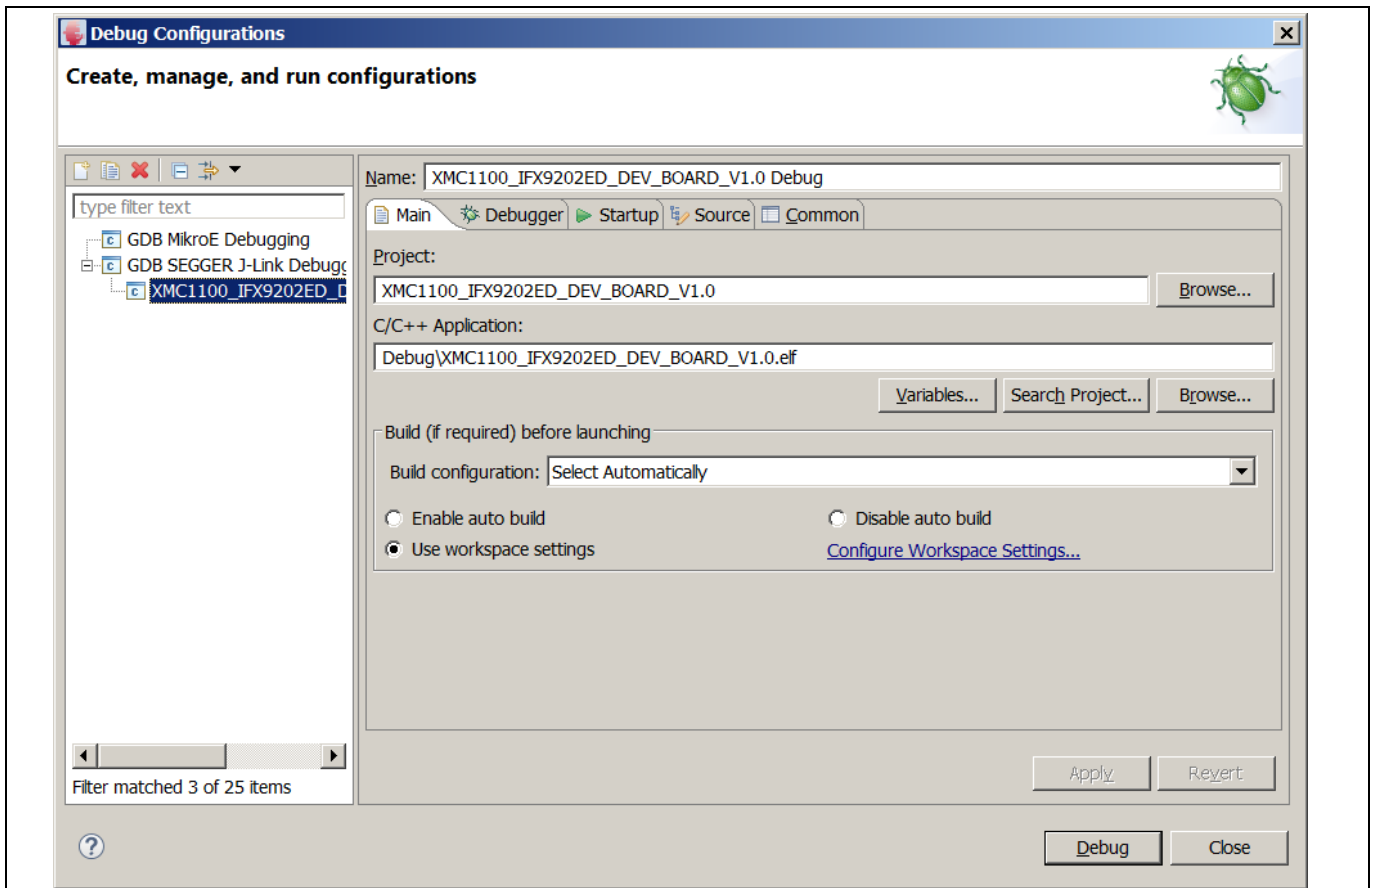

Figure 7 Debug Configuration
Step 4: In DAVE™, click on “Generate Code” and “Build Active Project”. Then click on the “Debug” button. The following screen will appear (see Figure 7). Select the project under “GDB SEGGER J-Link Debugger”.